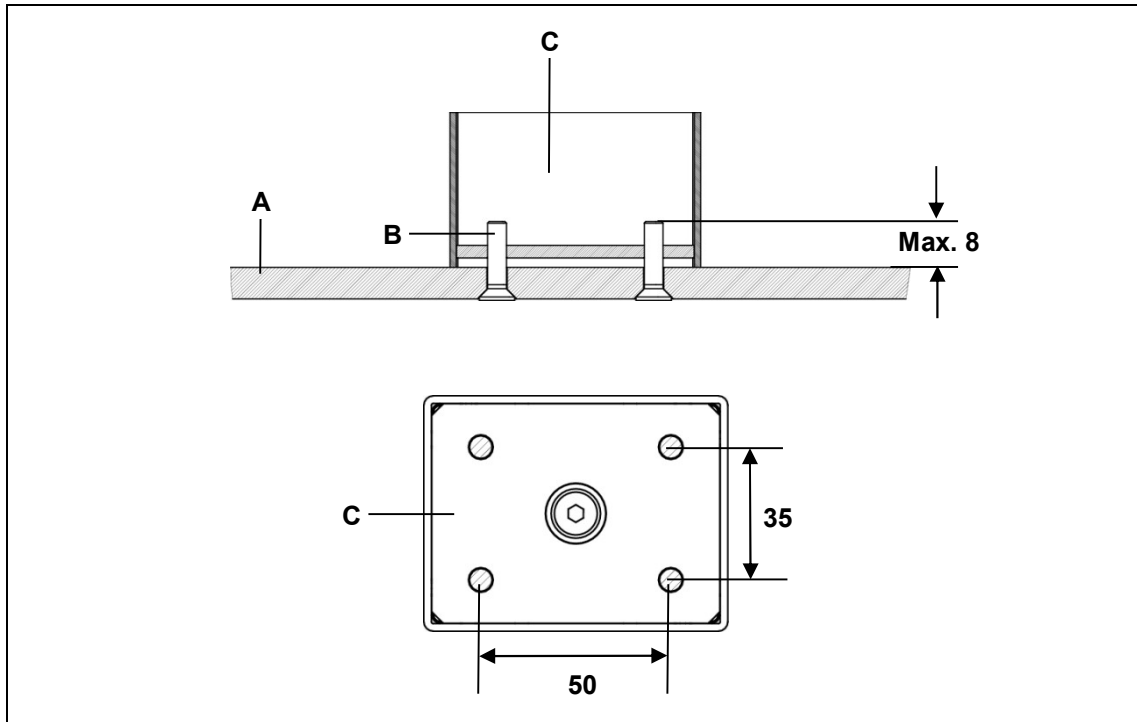
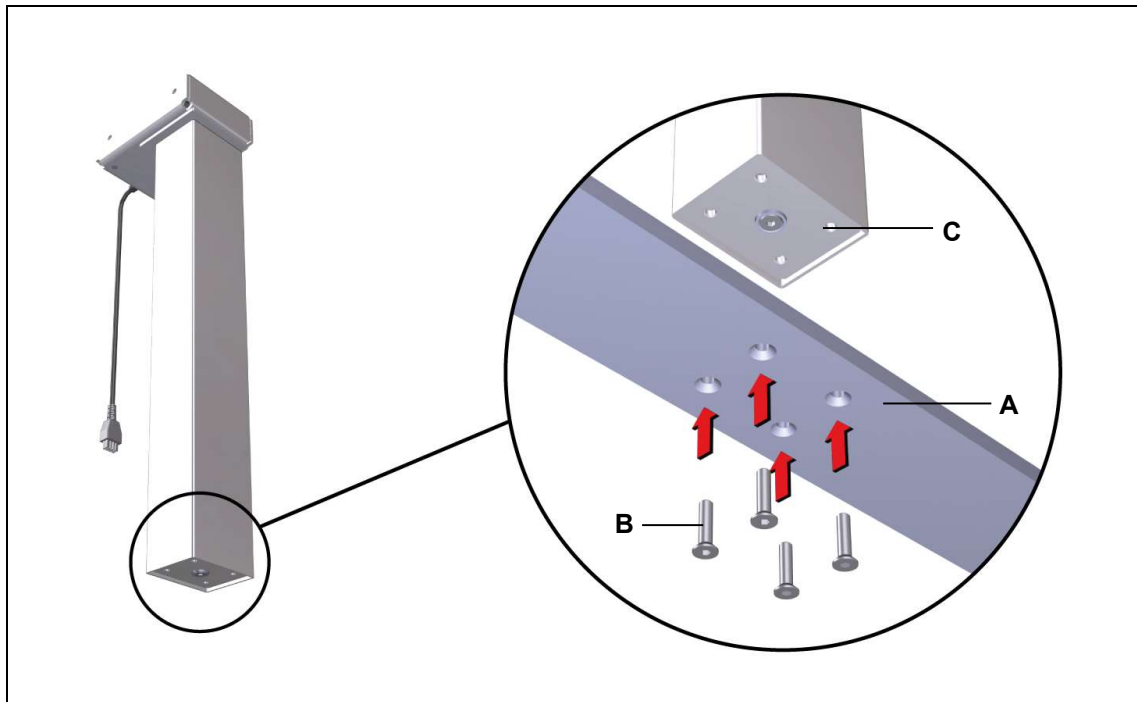

Figure 12 Example: Mounting the table base (version D): (in mm)
Figure 13 Example: Mounting the table base (version D)
- Use M6 countersunk screws (with strength grade 8.8), as shown in Figure 12. The tightening torque must not exceed 10 Nm.
- 1 Use four screws to attach the table base to the foot end of the lifting column, as shown in Figure 13 (the maximum tightening torque is 10 Nm). The mounting dimensions are shown in Figure 12.